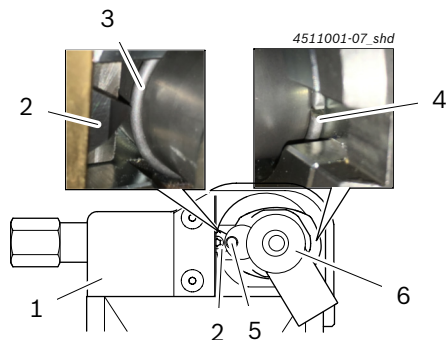

Fig. 8: Correct position of the snap ring
4. Rotate the opening in the snap ring (Fig. 8, item 4) to the side opposite the greatest wall thickness.
- ⇒ The snap ring (Fig. 8, item 3) is positioned exactly at the height of the replaceable cutting insert (Fig. 8, item 2).